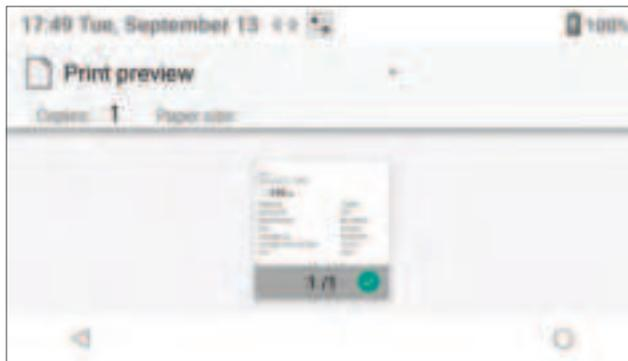

Figure 78: Print Preview
- 1 Select (Database), select the desired test result (**Patient**, **LQC**, or **EQC**), and then select (Print). The **Print preview** screen is displayed (Figure 78).